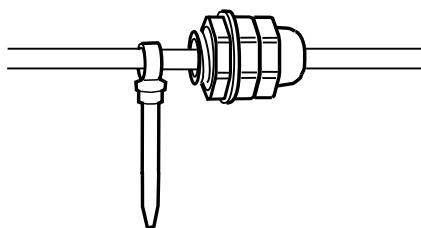

Fig. 6 Strain relieving bushing
- Mount a cable tie on the printer cable according to Fig. 6.